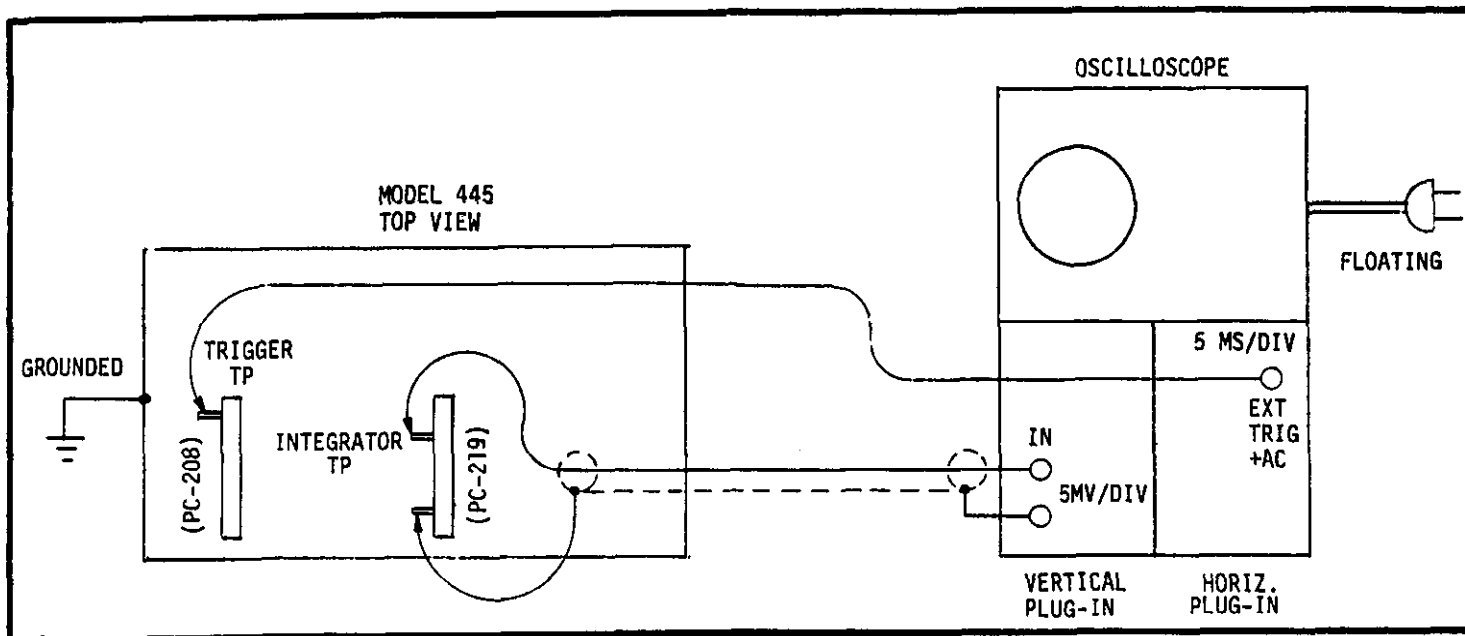

FIGURE 32. Test Equipment Set-up for A/D Calibration.
3. Connect Oscilloscope as shown in Figure 32.